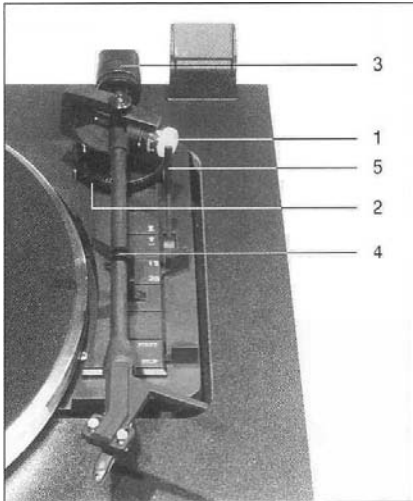

Fig. 6
Turn the tracking force adjuster (1) to "0" and the anti-skating knob (2) counter-clockwise until it stops (Fig. 6).
Unlock the tone arm (4) and move it a bit towards the centre of the platter. Bring the lift-lever (5) into position **DOWN** while holding back the tone arm (Fig. 6).